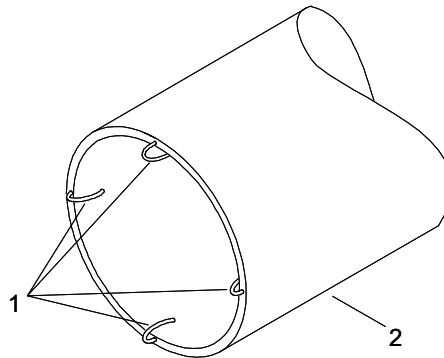

Figure 6. Hose Assembly Repair.
17. Using needles nose pliers, carefully bend the ground wire (Figure 6, Item 1) inside the hose assembly (Figure 6, Item 2).